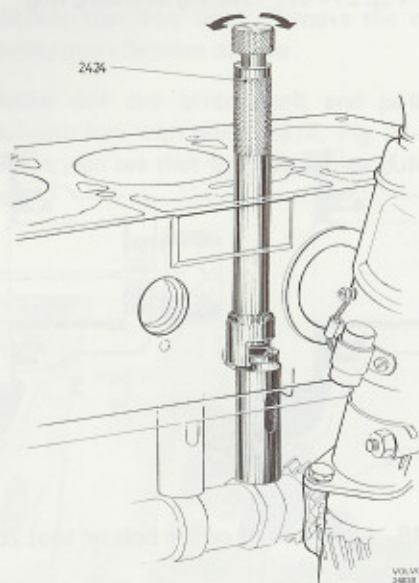

Fig. 21-45. Lifting out valve tappets
2. Lift up the valve tappets with tool 2424, Fig. 21-45.